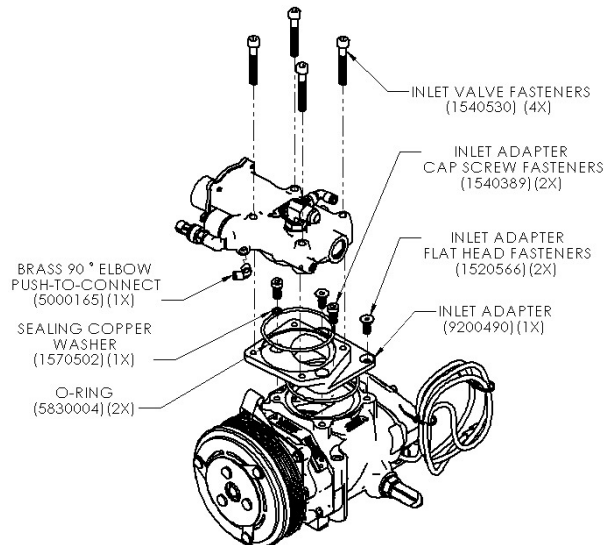

Fig 3. A700169 replacement kit components
9. Install brass elbow (5000165) into inlet valve in orientation shown in Fig 3.